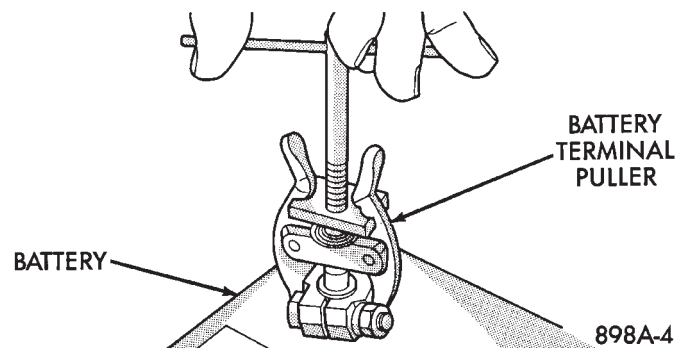

Fig. 2 Remove Battery Cables
(1) Make sure ignition switch is in OFF position and all accessories are OFF.
(2) Disconnect and remove the battery terminals from the battery posts. Remove NEGATIVE cable first (Fig. 2).